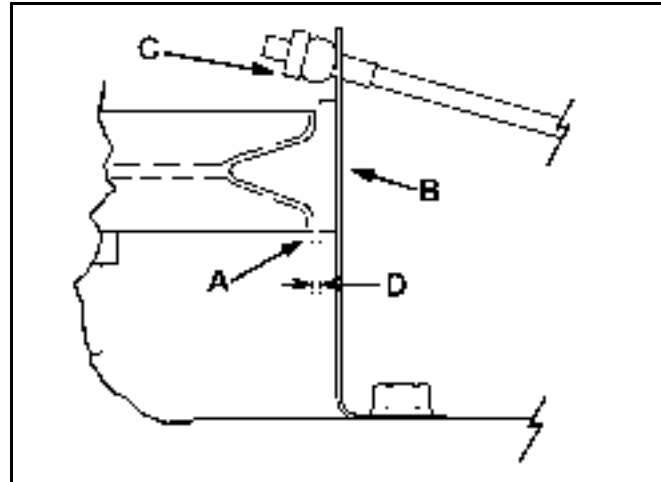

Figure 240
3. Using a feeler gage, measure between the bottom flange of each blade pulley and brake pad (Figure 240). Adjust lock nut on brake rods to obtain proper clearance .020-.060 inch (.5-1.5mm) (Figure 240).